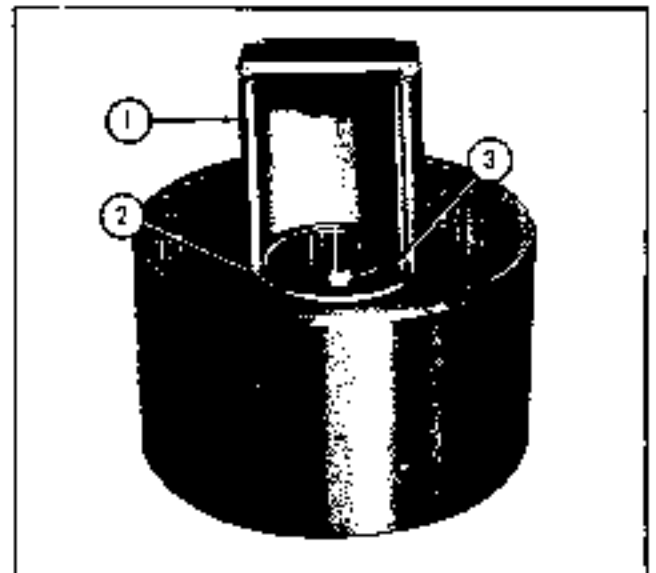

Fig. 1-48. Compressing spring
e. If conditions exist, such as having to stop or change directions on severe ramps or inclines, brake linkage should be adjusted to more overlap between brakes and inching range. This is accomplished by lengthening linkage to master cylinder by means of the clevis (2, figure 1-48). Lengthening the brake linkage will raise the clutch pressure above 10 psi and will, in effect, raise the full-applied brake pedal position so that it is within the inching range of pedal travel.
An adaptor similar to the one shown in figure 1-48 may be made from a length of 3-1/2 inch pipe. Cut approximately a 3 inch slice out of one side and weld a strap across one end.
f. Place spring (9) and retainer (10) on piston, compress spring, and secure with snap ring (11). (See figure 1-48).